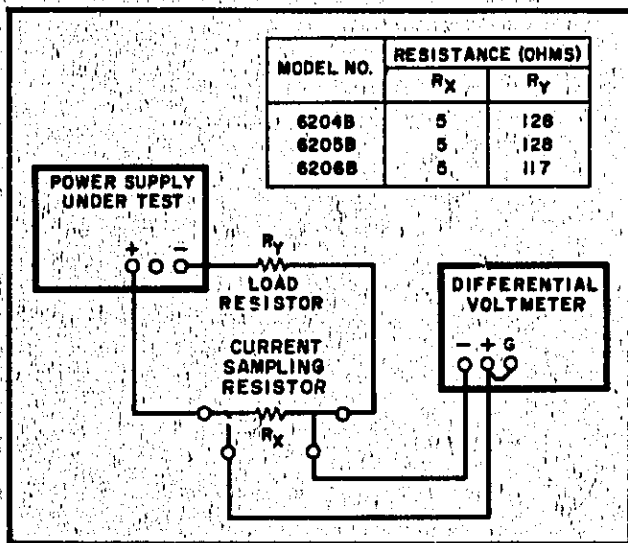

Figure 5-4. Output Current, Test Setup
- a. Connect test setup shown in Figure 5-4.
5-36 The maximum load ratings listed in Figure 5-4 must be observed in order to preserve the mer-